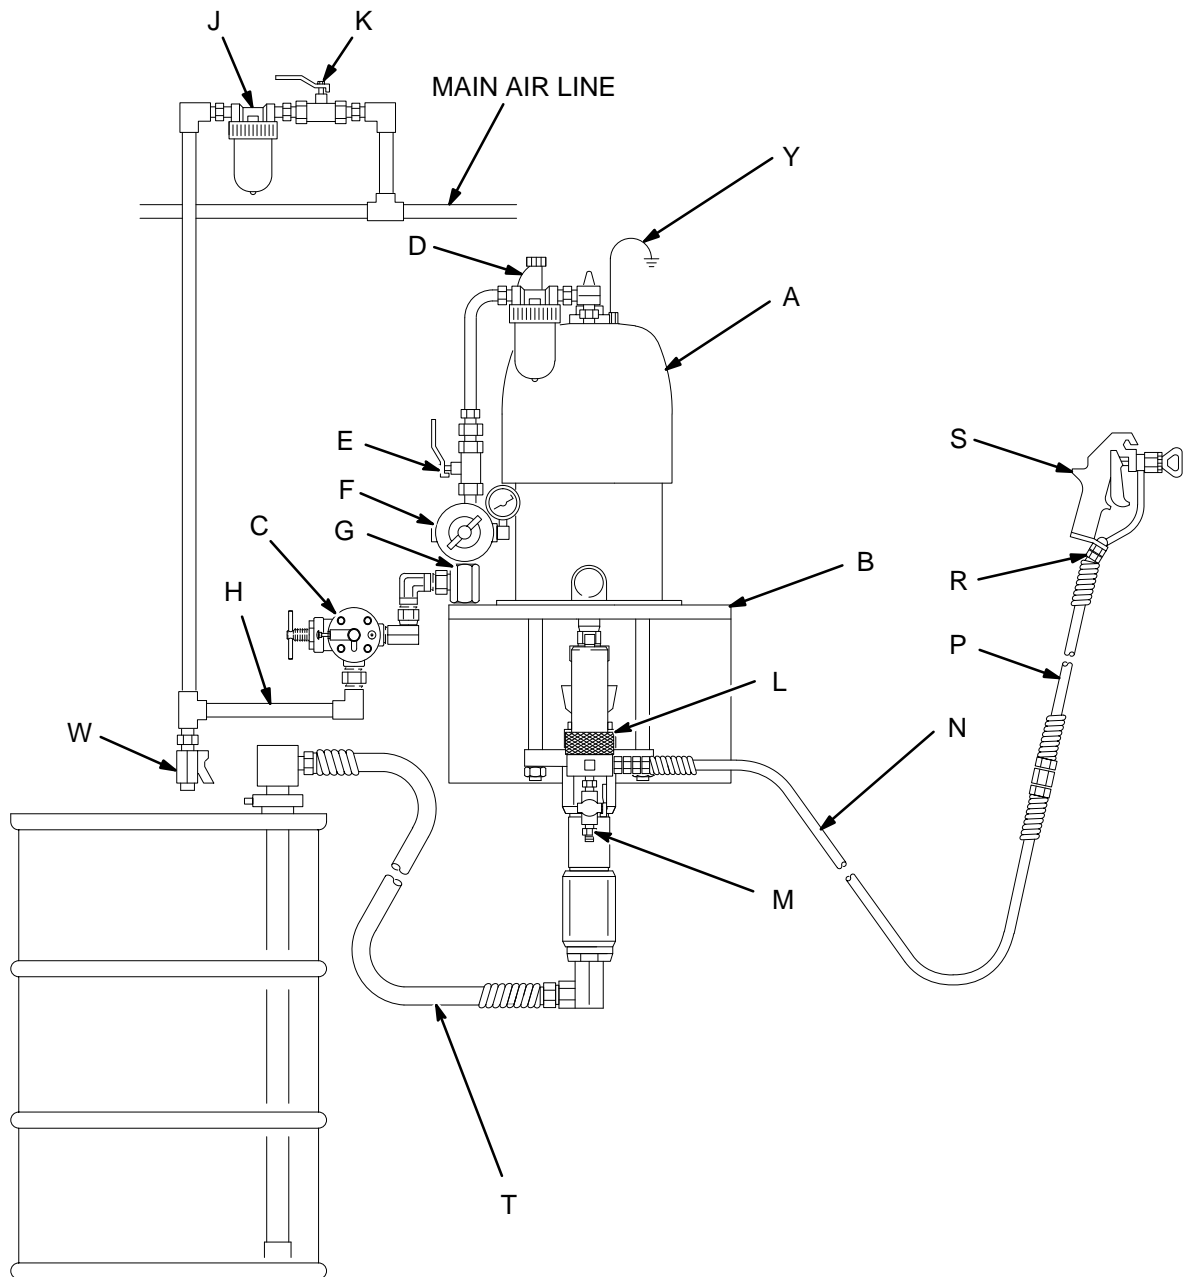

Fig. 2
Fig. 2 is only a guide for selecting and installing system components and accessories. Contact your Graco representative or Graco Technical Assistance (1-800-543-0339) for assistance in designing a system to suit your particular needs.
Mount the pump (A) to suit the type of installation planned. Fig. 2 illustrates a wall mount system. Pump dimensions and the mounting hole layout are shown on page 23.
Install the following accessories in the locations shown in Fig. 2, using adapters as necessary:
- **A fluid filter (L)** with a 60 mesh (250 micron) stainless steel element, to filter particles from the fluid as it leaves the pump.
- **A fluid drain valve (M)**, which is required in your system, helps relieve fluid pressure in the hose and gun (see the **WARNING** at left).
- **A gun (S)** dispenses the fluid. The gun shown in Fig. 2 is an airless spray gun for light to medium viscosity fluids.
- **A gun swivel (R)** allows freer gun movement.
- **A suction kit (T)** allows the pump to draw fluid from a supply container.
1. See Fig. 2. Connect the suction kit (T) to the pump's fluid inlet. Place the tube into the fluid supply.
2. Close the air regulator (F).
3. Open the pump's bleed-type master air valve (E).
4. Hold a metal part of the gun (S) firmly to the side of a grounded metal pail and hold the trigger open.
8. If the pump fails to prime properly, open the drain valve (M). Use the drain valve as a priming valve until the fluid flows from the valve. Close the valve.